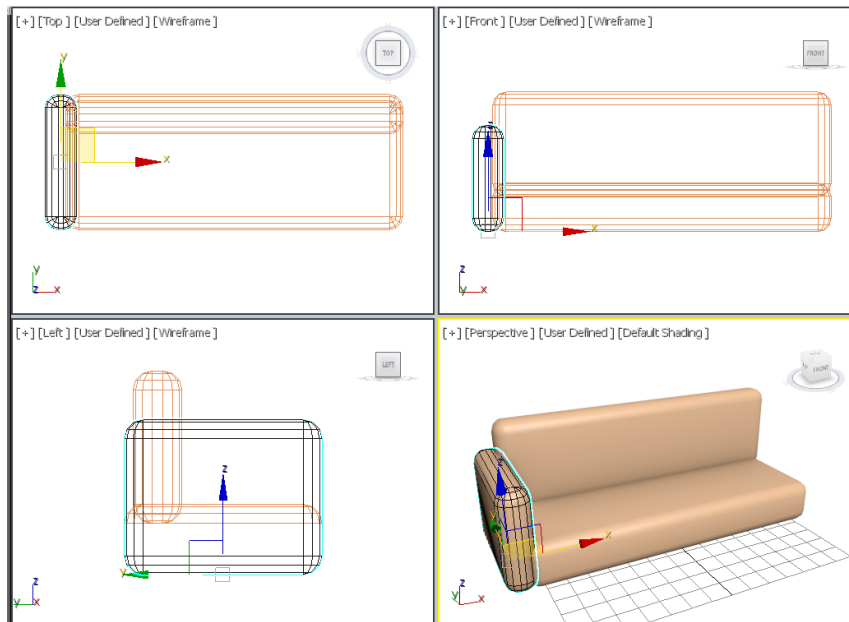

Figure 3-22 The another chamfer box displayed in the viewports
2. Choose the **Create** button; another chamfer box is created, as shown in Figure 3-22.